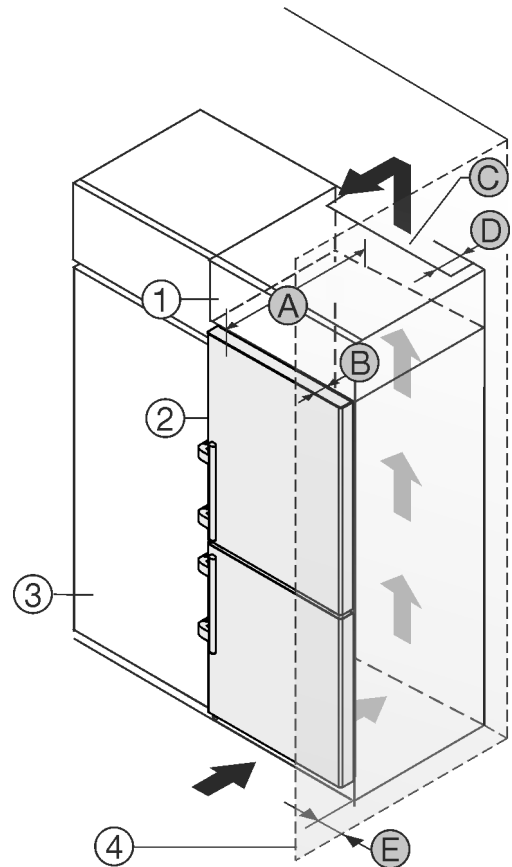

Fig. 51
The appliance can be built into kitchen units. A top cupboard *Fig. 51 (2)* can be added above the appliance in order to bring the appliance *Fig. 51 (1)* up to the height of the fitted kitchen units.
The appliance can be installed right next to the kitchen cabinet *Fig. 51 (3)*. The appliance must protrude by depth *Fig. 51 (B)* from the front of the cabinet so that the doors can be opened fully. The appliance may protrude further depending on the depth of the kitchen cabinets and whether wall spacers are used.
- At the back of the top cabinet, there must be an air outlet shaft with depth *Fig. 51 (D)*, spanning the entire width.
- The ventilation shaft *Fig. 51 (C)* must be observed under the ceiling.
If the appliance is installed with the hinges next to a wall *Fig. 51 (4)*, the distance *Fig. 51 (E)* between the appliance and the wall must be observed. This is how far the handle protrudes when the door is open.